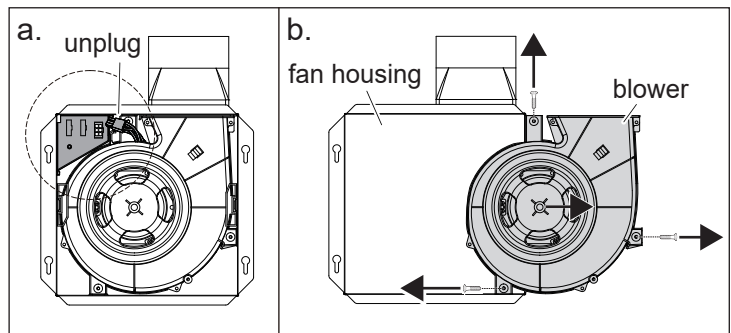

Fig 20
3. Unplug the connection from the wiring panel. (Fig 20.a)
4. Unscrew the screws which are holding the blower to the housing. (Fig 20.b)
5. Remove the blower from the fan housing. (Fig 20.b)